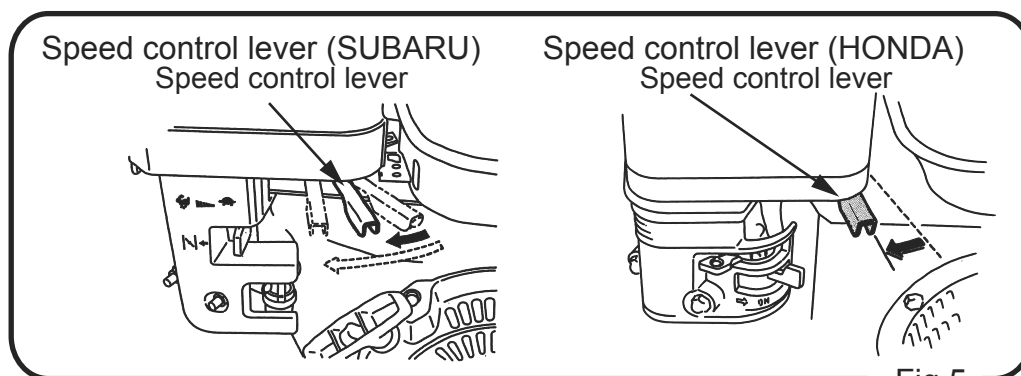

Fig.5
- 8-1-3 Open the speed control lever half. (Fig.5)
- 8-2-1 If you open the speed control lever at a stroke, this machine starts vibration. If you open it slowly, the clutch may slip, so open the speed control lever at a stroke without hesitation. (Fig. 5)